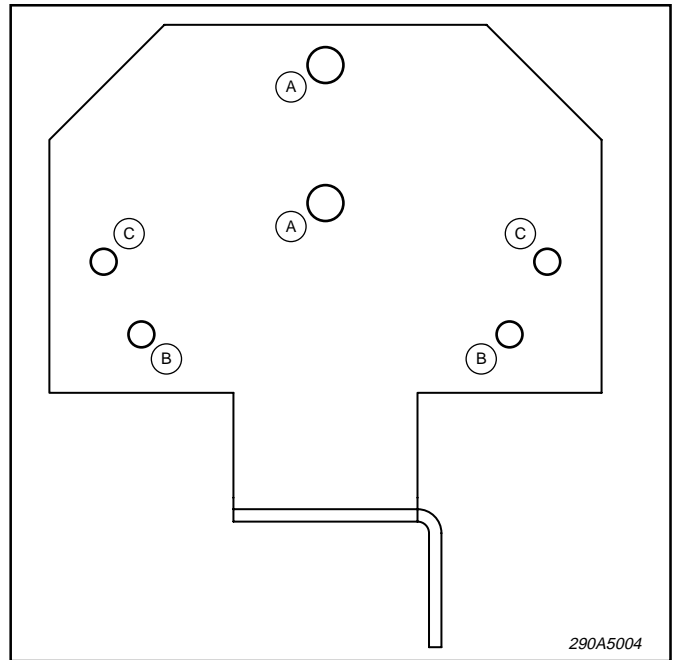

Figure 3.
5. Mount the bar to the hinge brackets. See figure 3 for a diagram of the holes that are to be used for each type of light. Use the hardware provided with the lightbar or specified in the lightbars installation instructions.